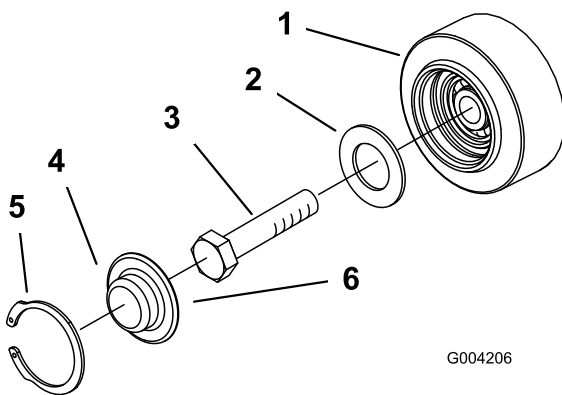

Figure 42
3. Remove the snap ring and cap from a road wheel (Figure 42).
4. Check the grease under the cap and around the gasket (Figure 42). If it is dirty, gritty, or depleted, clean out all of the grease, replace the gasket, and add new grease.
6. Place the greased road wheel cap over the bolt head (Figure 42).
7. Secure the road wheel cap with the snap ring (Figure 42).